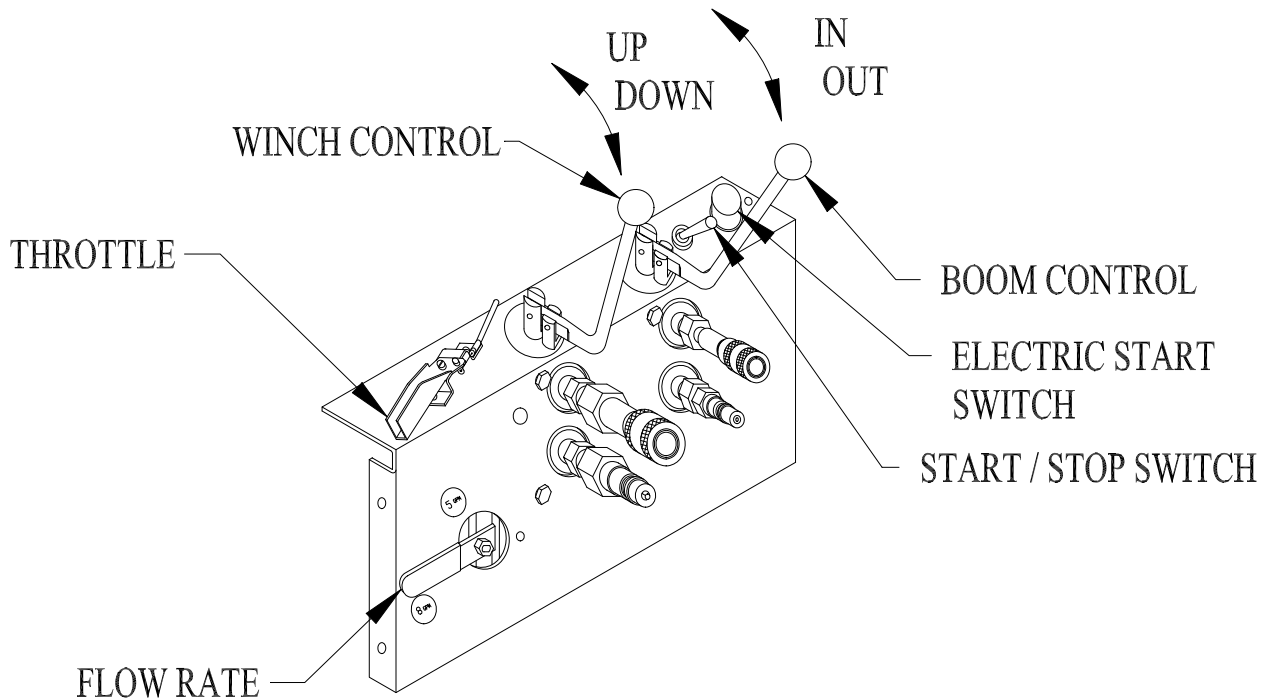

Figure 4-1.
1. The 5/8 lever provides an output of either 5 or 8 GPM. See Figure 4-1. This selection allows the hydraulic winch to operate at two different speed ranges. Within these ranges, engine speed can be varied to further adjust hoisting speeds. Speeds vary to about 165 fpm with a single part of line. A speed of up to 80 fpm occurs when using two parts of line. As wire rope is wound onto the drum, the effective drum diameter increases which increases lifting speed and decreases lifting capacity.
- Pull winch control lever up to raise a load and down to lower a load. See Figure 4-1. Never allow anybody to ride on the hoist. Make a few “dry runs” (without load, but **with** ballast) to become familiar with operation, controls, and HydraPak, and to test hoisting clearance. Always maintain 10-20 pounds of wire rope tension with a cable weight. Do NOT attempt to make any equipment adjustments during operation.
7. Use the boom control lever shown in Figure 4-1 to swing the boom 135° to load or unload material on the roof deck where you are working.